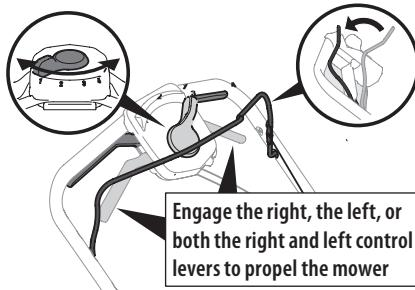

Figure 30
- Once the engine is running and while continuing to hold the blade control down, squeeze either (or both) drive controls against the upper handle to propel mower (Figure 30).